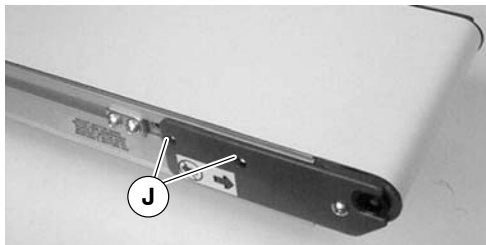

Figure 7
4a. Locate drive mounting position and remove two (2) screws (J of Figure 7).